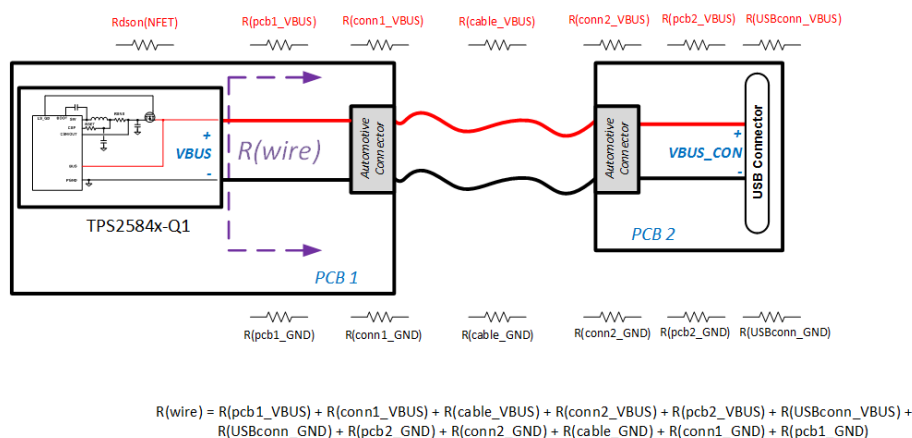

Figure 10-19. Automotive USB Resistances
When a load draws current through a long or thin wire, there is an IR drop that reduces the voltage delivered to the load. Cable droop compensation linearly increases the voltage at the CSN/OUT pin of TPS2584x-Q1 as load current increases with the objective of maintaining $V_{\text{BUS_CON}}$ (the bus voltage at the USB connector) at 5 V, regardless of load conditions. Most portable devices charge at maximum current when 5 V is present at the USB connector. Figure 10-19 provides an example of resistor drops encountered when designing an automotive USB system with a remote USB connector location.
- Cable compensation: Total resistance including cable resistance, contact resistance of connectors, TPS2584x-Q1 current sense resistor and external NFET $r_{DS(on)}$ (if used). Refer to Figure 10-19 for examples of resistance in an automotive application.